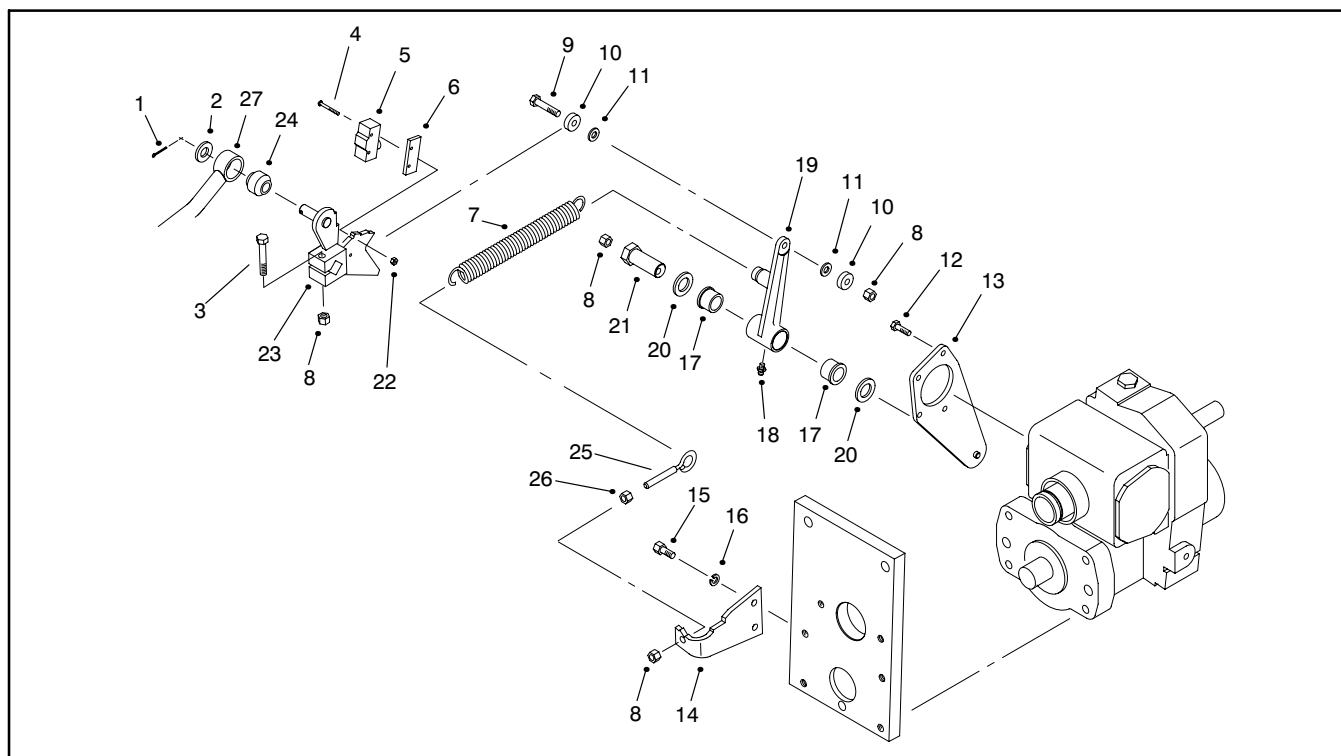

Figure 33
3. Remove eyebolt from the spring anchor plate and extension spring from the switch arm (Fig. 33).